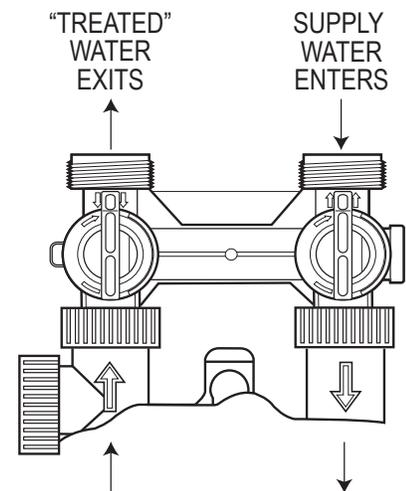

Figure 23
- Slowly turn the bypass outlet handle to the “Normal Operation” position and open the outlet ball valve allowing water to flow through system and enter the house. (Refer to Figure 23)